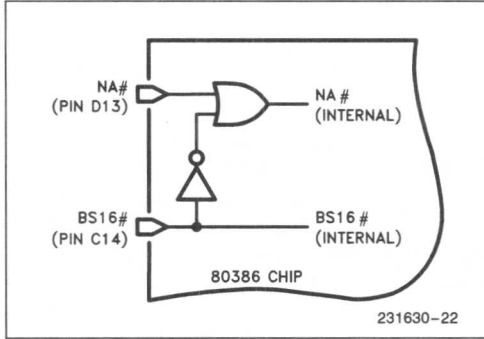

**Figure 5-17. Fastest Transition to Pipelined Address Following Idle Bus State**
- 1) For **NA#** to be sampled asserted, **BS16#** must be negated at that sampling window (see Figure 5-16 Cycles 3 and 4, and Figure 5-17 Cycles 2 through 4). If **NA#** and **BS16#** are both sampled asserted during the last T2 period of a bus cycle, **BS16#** asserted has priority. Therefore, if both are asserted, the current bus size is taken to be 16 bits and the next address is not pipelined. Conceptually, Figure 5-18 shows the internal 80386 logic providing these characteristics.
The transition to pipelined address is shown functionally by Figure 5-17 Cycle 1. Note that Cycle 1 is used to transition into pipelined address timing for the subsequent Cycles 2, 3 and 4, which are pipelined. The NA# input is asserted at the appropriate time to select address pipelining for Cycles 2, 3 and 4.
Once a bus cycle is in progress and the current address has been valid for one entire bus state, the NA# input is sampled at the end of every phase one until the bus cycle is acknowledged. During Figure 5-17 Cycle 1 therefore, sampling begins in T2. Once NA# is sampled asserted during the current cycle, the 80386 is free to drive a new address and bus cycle definition on the bus as early as the next bus state. In Figure 5-16 Cycle 1 for example, the next address is driven during state T2P. Thus Cycle 1 makes the transition to pipelined address timing, since it begins with T1 but ends with T2P. Because the address for Cycle 2 is available before Cycle 2 begins, Cycle 2 is called a pipelined bus cycle, and it begins with T1P. Cycle 2 begins as soon as READY# asserted terminates Cycle 1.
Example transition bus cycles are Figure 5-17 Cycle 1 and Figure 5-16 Cycle 2. Figure 5-17 shows transition during the very first cycle after an idle bus state, which is the fastest possible transition into address pipelining. Figure 5-16 Cycle 2 shows a transition cycle occurring during a burst of bus cycles. In any case, a transition cycle is the same whenever it occurs: it consists at least of T1, T2 (you assert NA# at that time), and T2P (provided the 80386 has an internal bus request already pending, which it almost always has). T2P states are repeated if wait states are added to the cycle.
Note three states (T1, T2 and T2P) are only required in a bus cycle performing a **transition** from non-pipelined address into pipelined address timing, for example Figure 5-17 Cycle 1. Figure 5-17 Cycles 2, 3 and 4 show that address pipelining can be maintained with two-state bus cycles consisting only of T1P and T2P.